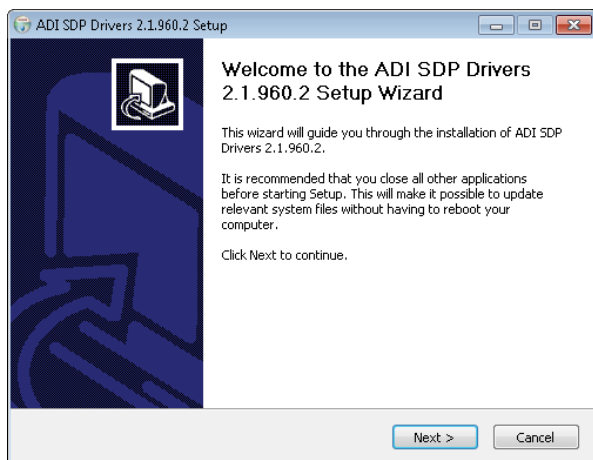

Figure 2. SDP Driver Installation Wizard
2. When the SDP drivers setup wizard appears, click **Next** (see Figure 2).